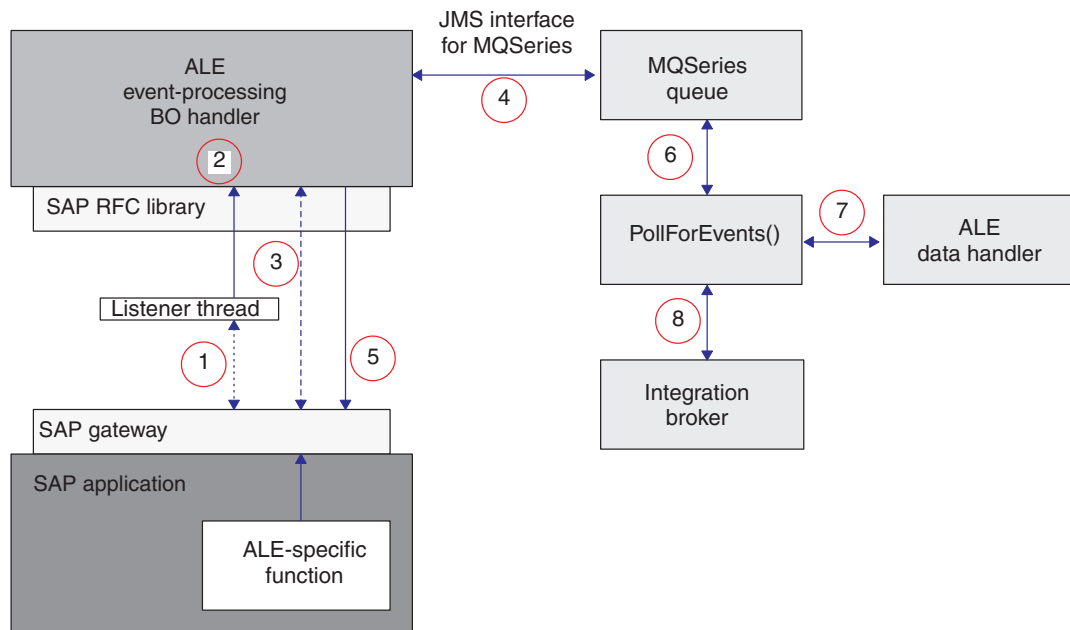

Figure 17. Business object event processing
**Processing events in the MQSeries queue:** Figure 17 on page 112 illustrates how the ALE Module processes the MQSeries queue.